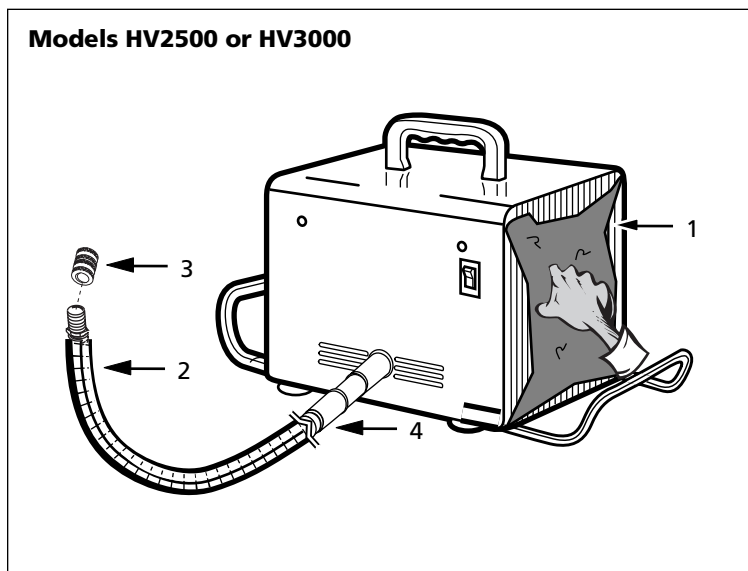

Figure 4
1. Squeeze and pull to remove both filters (See Figure 4).